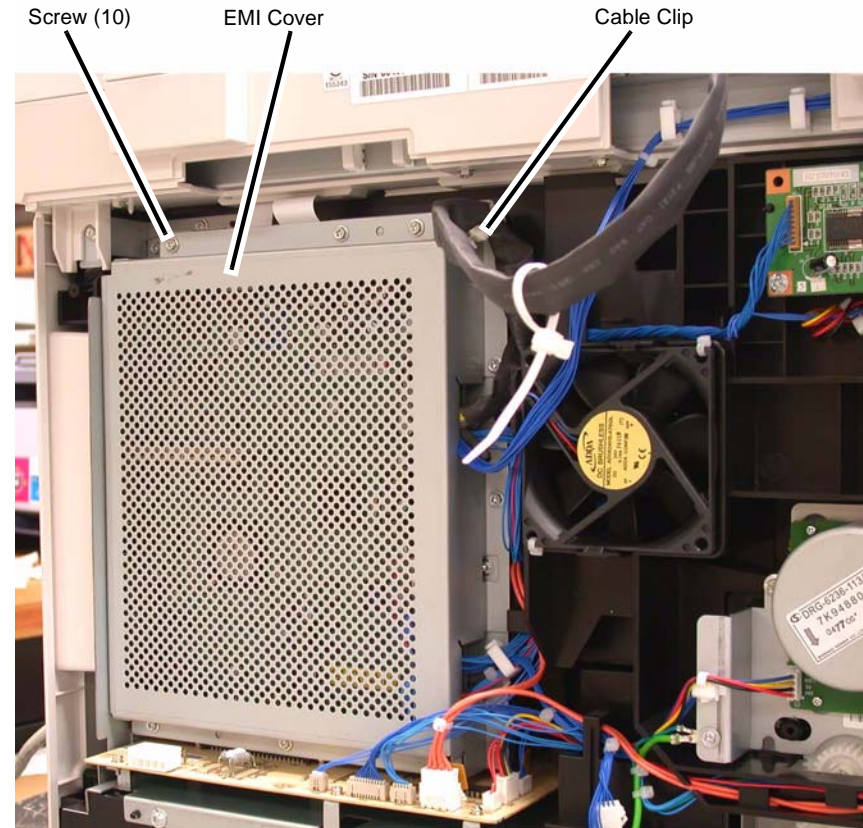

Figure 2 Remove the EMI Cover
3. Remove the EMI Cover (Figure 2).
- Remove the Screws (10).